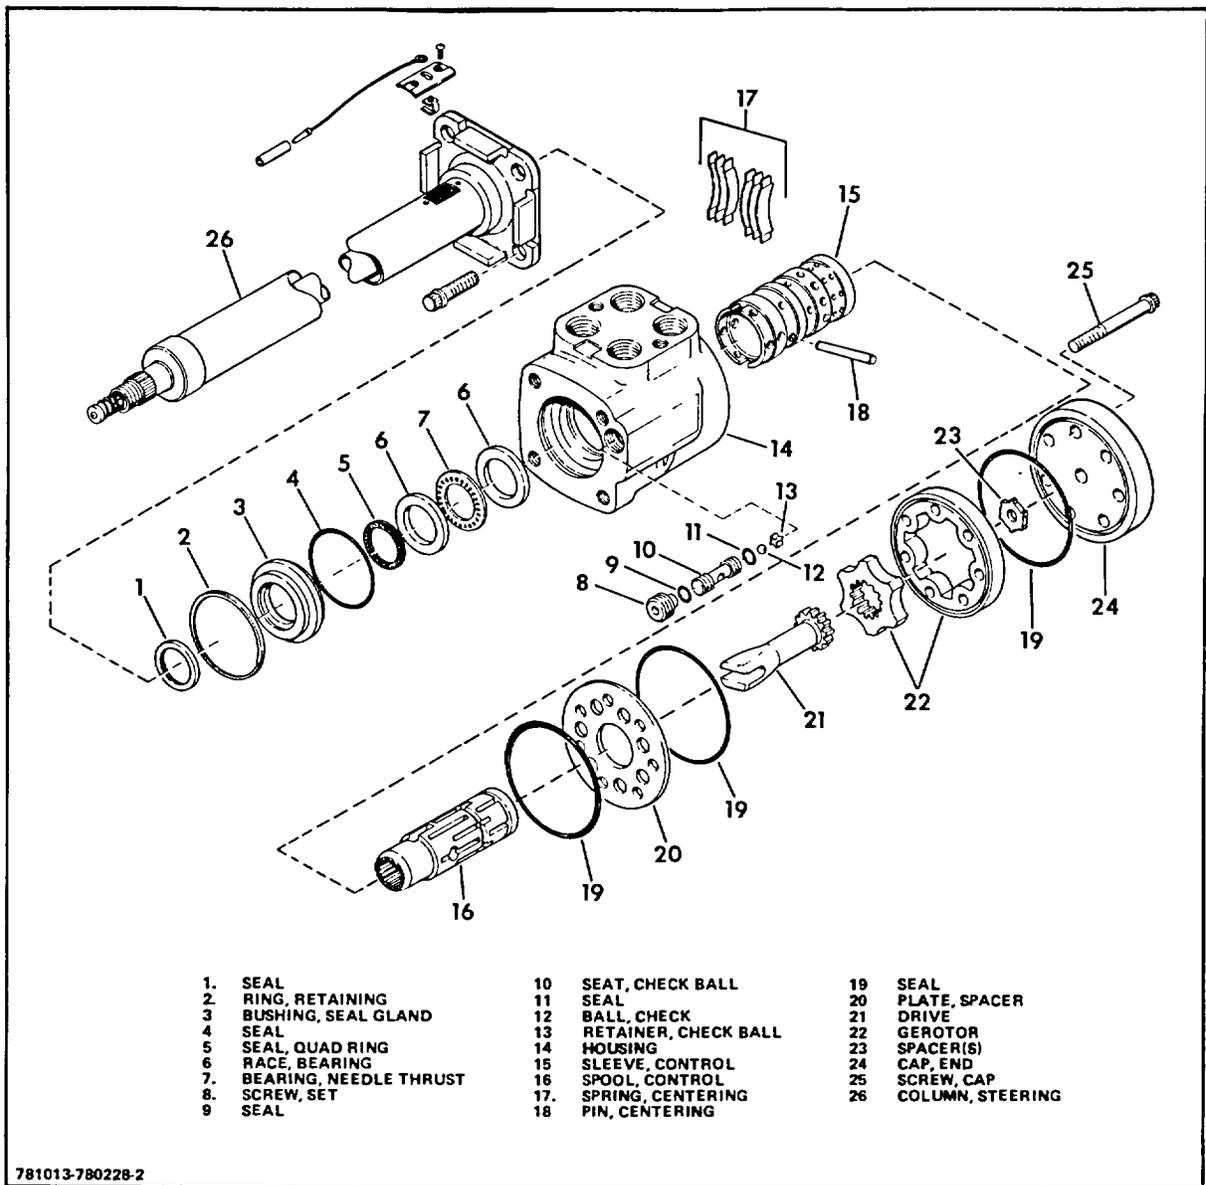
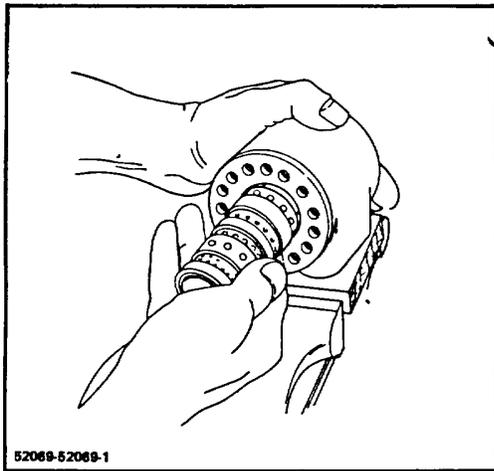

Figure 3-1. Power Steer Control Assembly
Figure 3-2. Removing Spool-Sleeve Assembly
2. Remove the 12-point capscrews securing the steering column to the control unit. Remove the steering column (Fig 3-1).
4. Remove the three-section meter end assembly (Items 19 through 24, Fig 3-1) as a unit.
6. Remove the retaining ring (2) and the seal gland bushing (3).
7. Remove the control unit from the vise and place the port face of the housing on a flat surface. Remove the spool and sleeve assembly from the housing (Fig 3-2).
10. Install the rear bearing race (Item 6, Fig 3-1), the needle bearing (7), and the front race (6).
11. Install new seals (5, 4, 1) on the seal gland bushing (3). Install the seal gland bushing over the end of the spool.
12. Install the retaining ring (2) in the control unit housing.